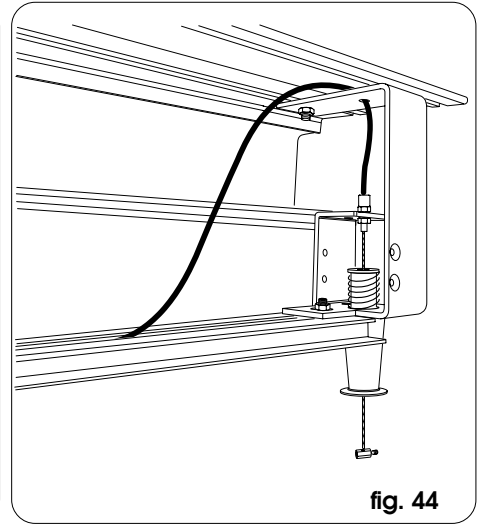

fig. 44
- Position the sheathed cable on the side bracket as shown in fig. 44; insert the steel wire inside the release knob and secure a clamp at the end, tightening its dowel (fig. 44).